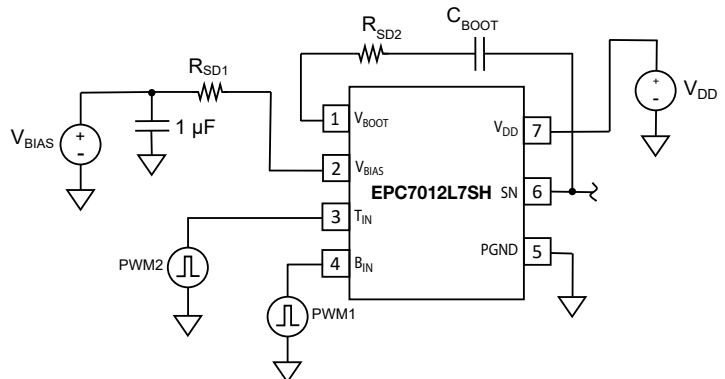

Figure 3. External Slow-Down Resistor Connections
The EPC7012L7SH is designed to be a high-speed power driver. As such it has extremely fast switching node (SN) rise and fall times by design. Fast rise and fall times can and will result in unwanted voltage spikes at the V_{DD} and PGND pins due to any parasitic layout inductance ($V_{SPIKE} = L_{Par} \cdot di / dt$). If as a result of the optimized PCB layout that these spikes cannot be reduced to an acceptable level, it is recommended that two resistors be added to the circuit to decrease the slew rates of the low- and high-side gate drive signals, which in turn decreases the slew rates of the switching node rise and fall times. These resistors, R_{SD1} and R_{SD2} are shown in Figure 3.